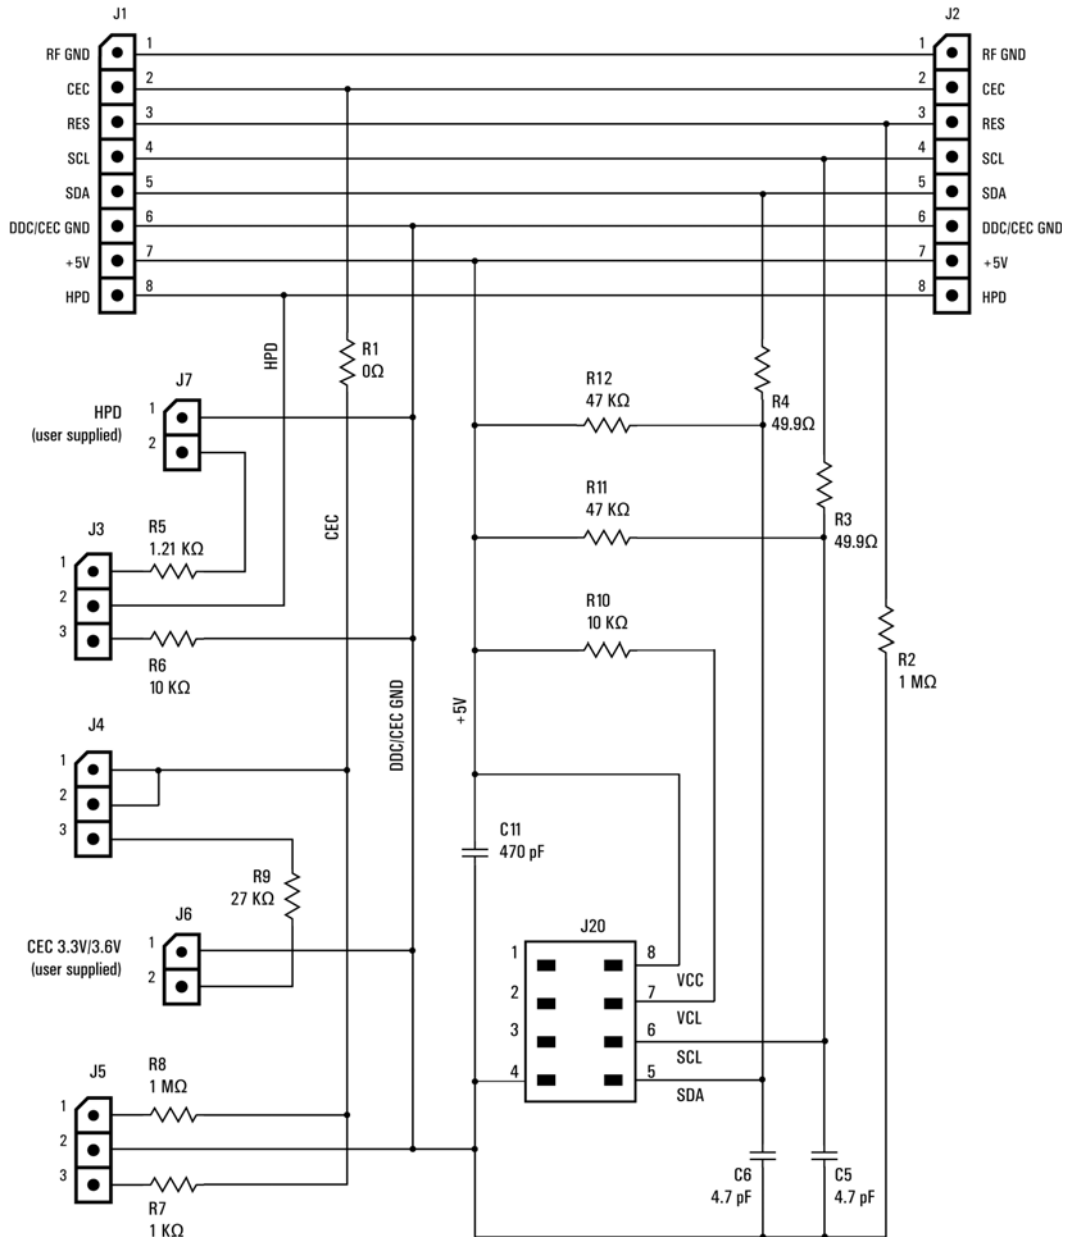

Figure 13. TPA Board Assembly Schematic Diagram
Figure 13 on page 26 shows the schematic diagram of the TPA board assembly. Jumpers J3, J4, and J5, shown on the left side of the schematic, configure the TPA board assembly for the various test conditions. Use jumpers J6 and J7 to supply CEC and HPD inputs. Sink pull-up resistors R11 and R12 ensure that a strong low is required for the SDA (serial data) and SCL (serial clock) lines. The combination of R3/C5 and R4/C6 provide useful filtering for display (TV) environments. Capacitor C11 is a bypass for the +5V supply line.